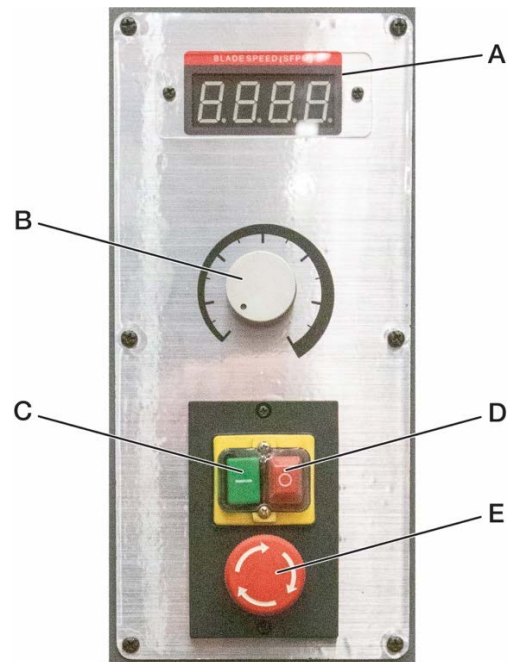

Figure 9-2 Control Panel Identification
Refer to Figure 9-2
2. Loosen the lock knob (A).
3. Turn the speed control knob (B, Figure 9-2) down (counterclockwise) to the lowest speed setting.
6. If adjustment is needed, slowly and a little at a time, turn the adjustment knob (B) to cause the blade to move toward the middle of the wheel. Allow the blade to run several rotations after any adjustment.
7. When the tracking is centered, tighten the lock knob (A).